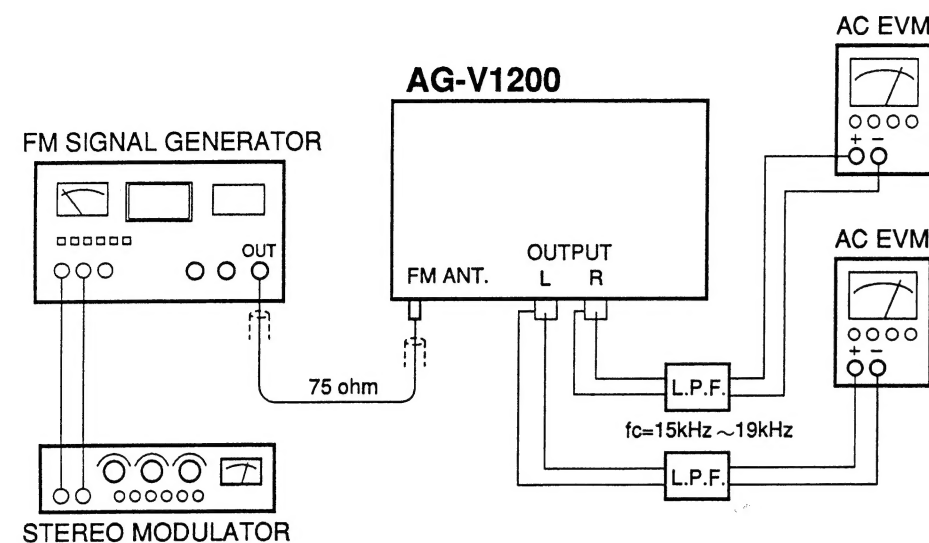

Fig. 2-3
1. Test equipment connections are shown in Fig. 2-3.